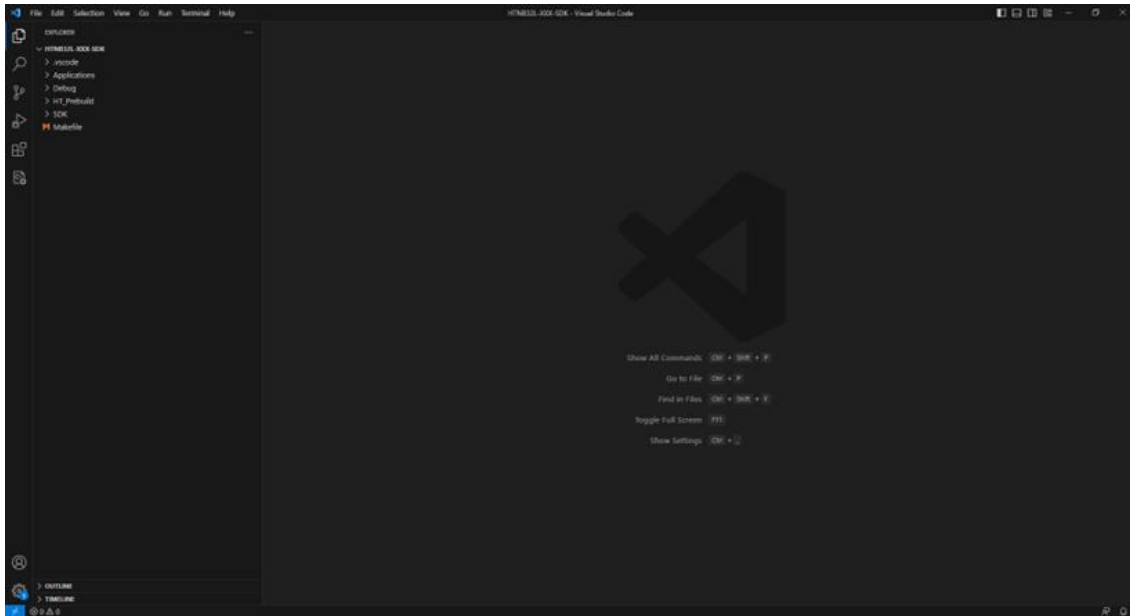

Figure 13: HTNB32L-XXX-SDK opened on VSCODE editor.
5. Figure 13 shows the VSCODE workspace properly launched:
1. Open the HTNB32L-XXX-SDK directory in your VSCODE editor (Figure 13).